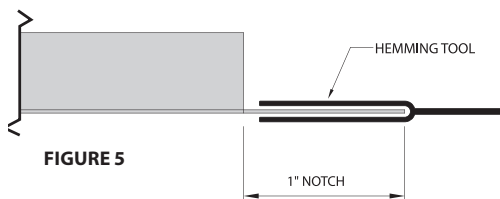

FIGURE 5
STEP 2: Place the hemming tool over the newly created tab in the panel as shown in Figure 5.